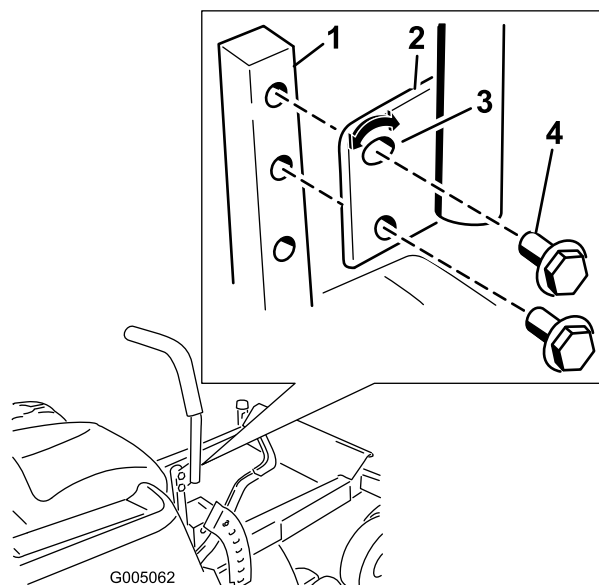

Figure 17
1. Remove the 2 bolts holding the control lever to the control arm shaft (Figure 17).
2. Move the control lever to the next set of holes. Secure the lever with the 2 bolts (Figure 17).
2. Loosen the lower bolt just enough to pivot the control lever fore or aft (Figure 17). Tighten both bolts to secure the control in the new position.